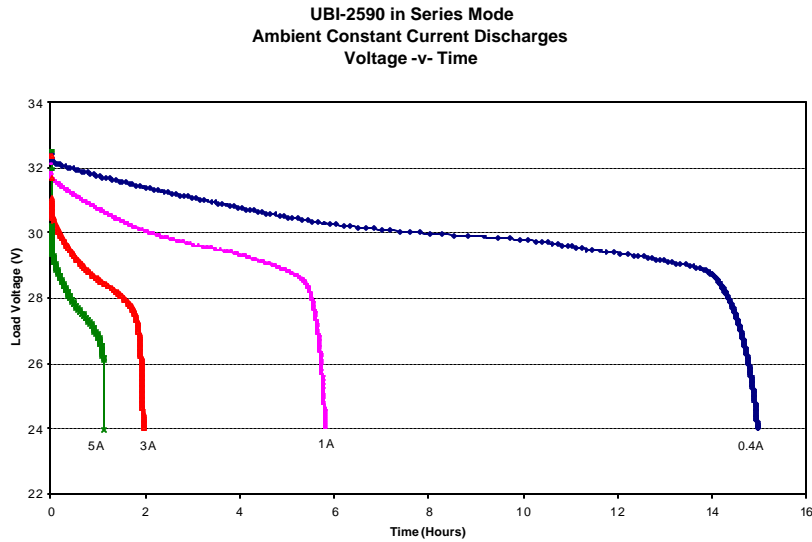

Figure 6
11.4. Series Mode (16.4v) Ambient Constant Current Discharges Voltage -v- Time (Figure 6)